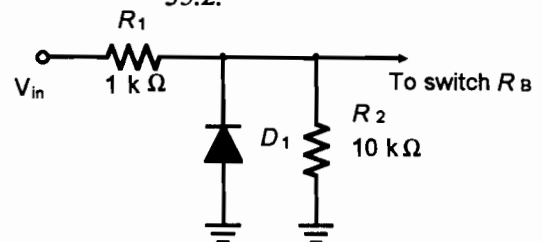

Figure 35.2
If your generator does not have a TTL output, you will need to feed the generator output through a negative shunt clipper (Experiment 10). See Figure 35.2.
1. With circuit power off, and using the circuit of Figure 35.2, remove the 1.5-k $\Omega$  collector resistor and replace it with a 1-M $\Omega$  resistor.